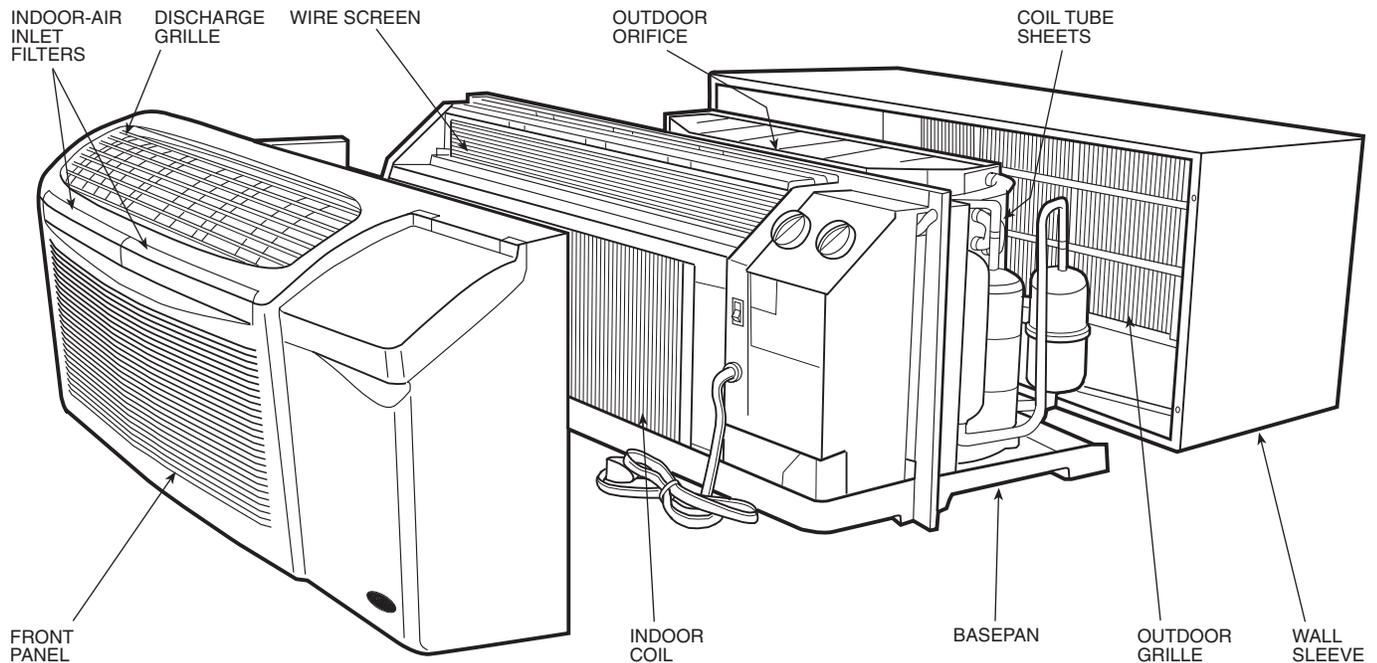

FIGURE 6 — UNIT COMPONENTS
■ **INSTALL CHASSIS IN SLEEVE (See Figures 6 to 9)**
2. Gently pull the filter up and away from the unit. See Figures 6 and 17.